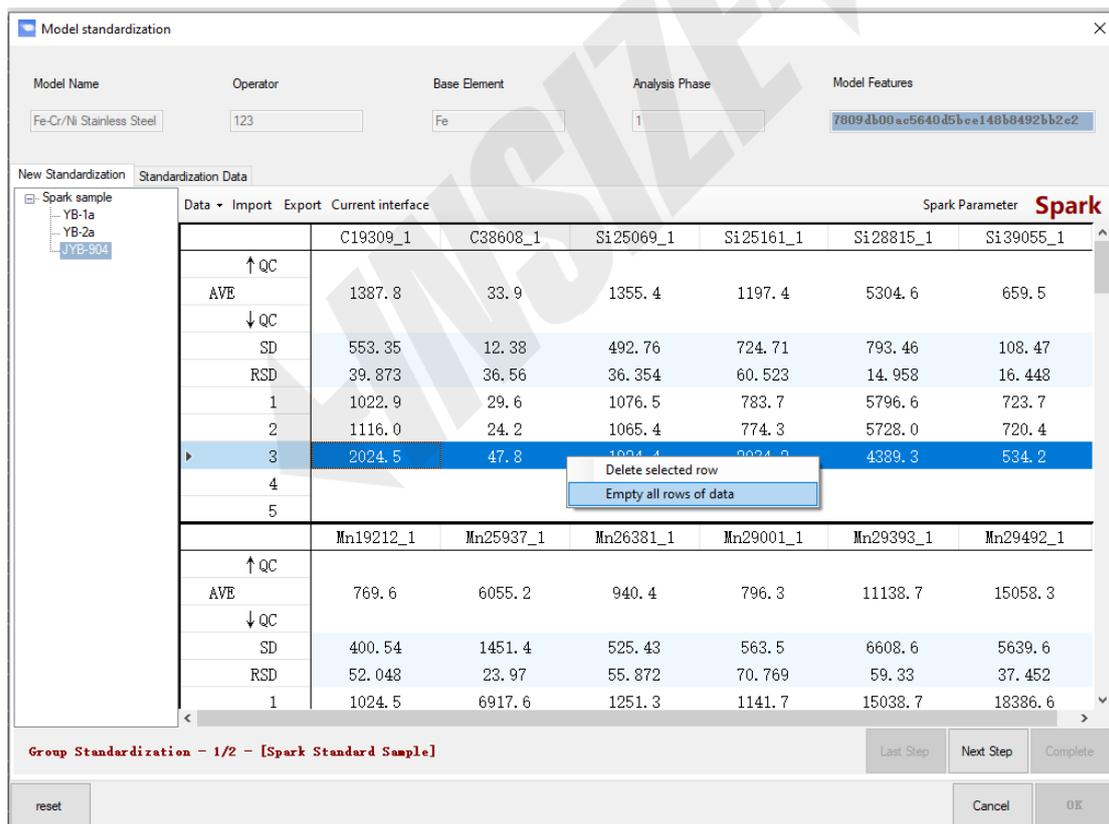

Figure 4-16 Spark High & Low standard sample
Step 2 Spark the corresponding high and low standards in turn, and observe the RSD after twice sparks. If the RSD of channels above 500 are all less than 3, click the next sample to repeat the above operation. If the RSD of channels above 500 are all greater than 3, you need to spark the Sample again, delete a data with a large difference, and finally ensure that the RSD of more than 500 channels is less than 3, as shown in Figure 4-16 below: